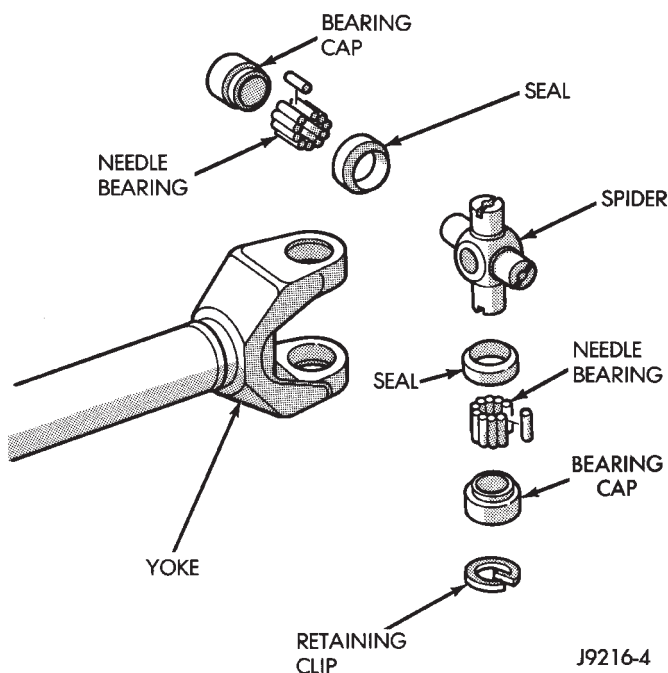

Fig. 3 Single Cardan Universal Joint
- Single cardan universal joint (Fig. 3).